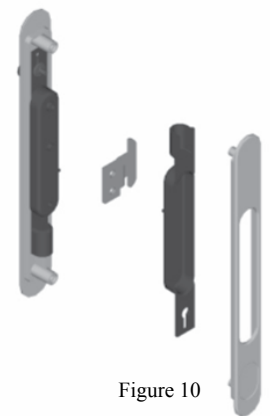

Figure 10
L. The handle set can be reversed if necessary. The lock button must be at the top of the handle set for proper operation. To disassemble the handle, remove the two handle screws. Remove the exterior handle. Carefully separate the inside nylon slide by gently tugging until it separates from the remaining nylon slide. Care must be taken during this procedure not to dislodge the handle spring, or the spring could fall into the drawbar cavity. Remove the latch from the inside nylon handle, and remove the interior handle assembly from the drawbar. Reverse this process to reassemble the handle. (Figure 10.)